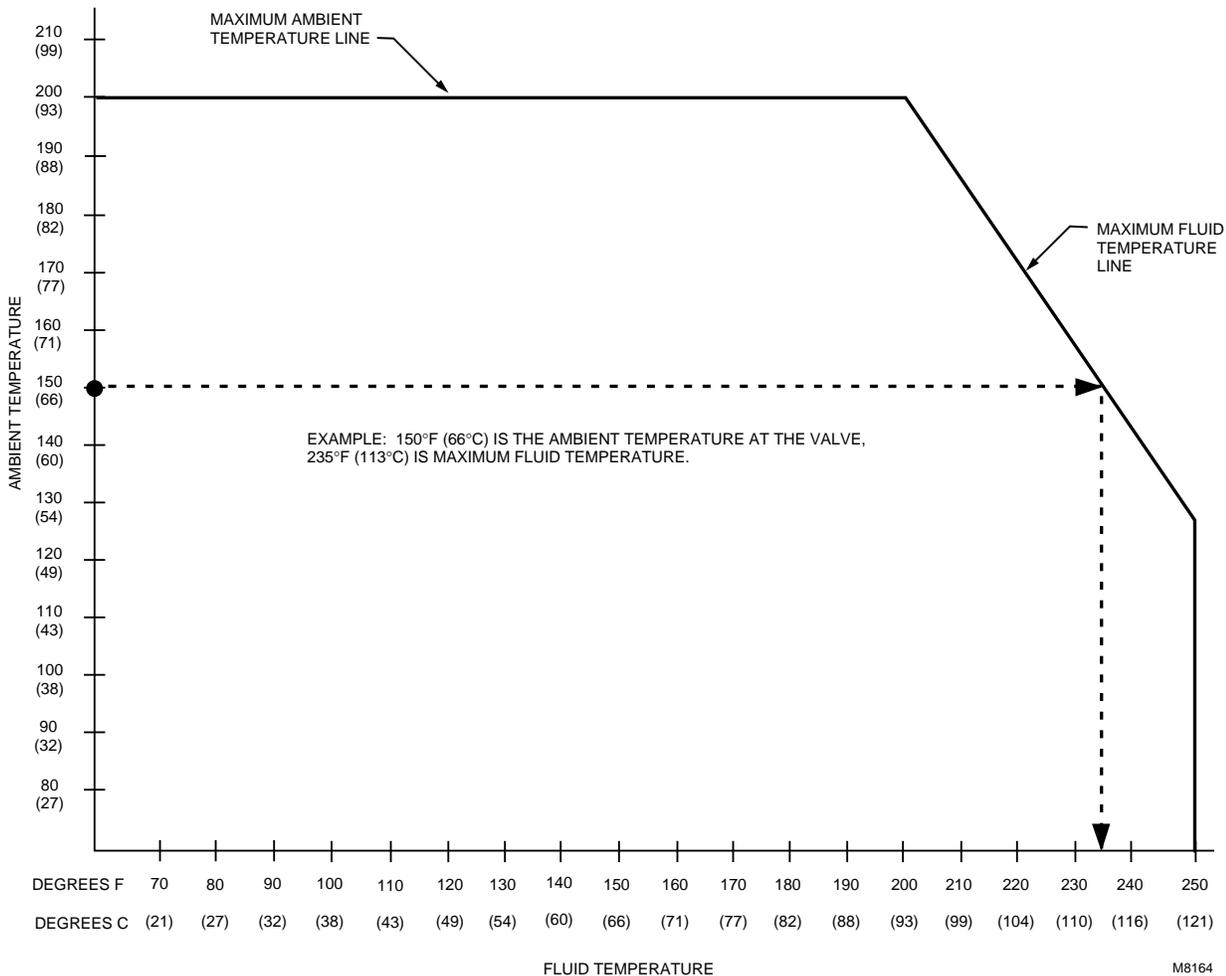

Fig. 2. Maximum temperature characteristics of valves with Class F motors.
The maximum operating temperature for motorized valves depends on the maximum ambient temperature at the valve location, and on the maximum fluid temperature. Using the graph in Fig. 2, find the maximum valve operating temperature as follows:
- C Draw a line from that point down to the fluid temperature scale to find the maximum operating temperature. (Note the example shown by the dashed line in Fig. 2.)